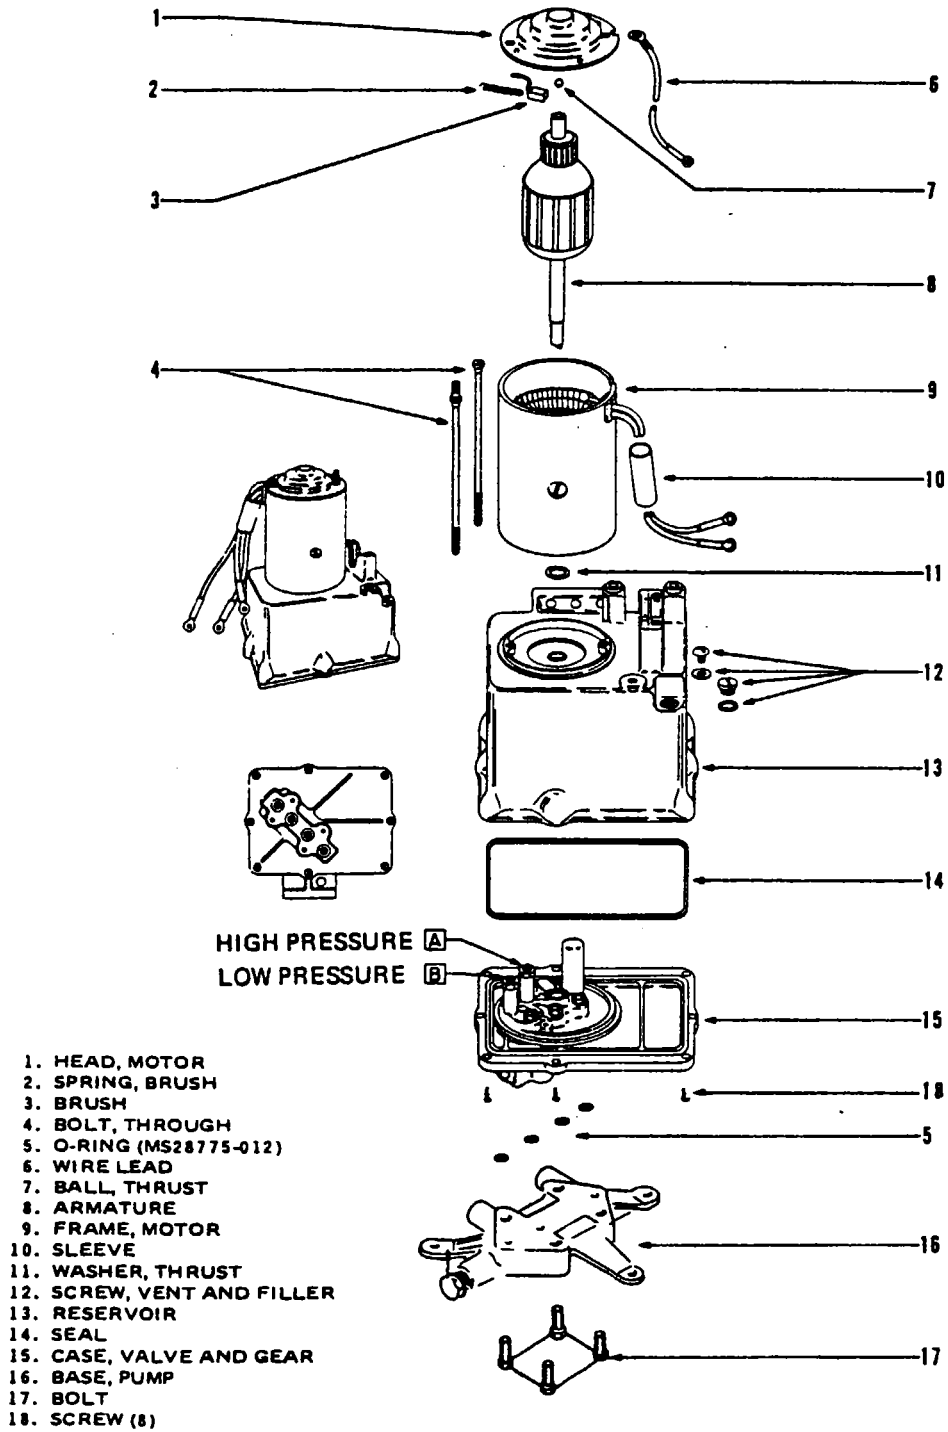

Figure 6-3. Hydraulic Pump/Reservoir, Exploded View
6-6. DISASSEMBLY OF HYDRAULIC PUMP. (Refer to Figure 6-3.) After the hydraulic pump has been removed from the airplane, cap or plug all ports, and clean exterior of pump using a dry cleaning solvent to remove accumulated dirt and dust. The three major components of the pump assembly are the pump base, pump motor, and valve and gear case. These three major components should be disassembled as follows:
6-8. ASSEMBLY OF HYDRAULIC PUMP. (Refer to Figure 6-3.)
- 6. Connect blue lead to positive terminal of power supply. Pump should operate and the high pressure gauge should indicate between 2000 and 2500 psi. (Should the gauge indicate a pressure below 2000 psi or over 2500 psi, adjust valve "A," Figure 6-3 accordingly to obtain the desired reading.)
8. Connect green lead to positive terminal of power supply. Pump should operate in reverse, dropping reading on high pressure gauge to zero. The low pressure gauge should indicate 500 to 800 psi. (Should the gauge indicate a pressure below 500 psi or over 800 psi, adjust valve "B," Figure 6-3, accordingly to obtain desired reading.) Disconnect green lead. Both pressure gauges should indicate zero psi.